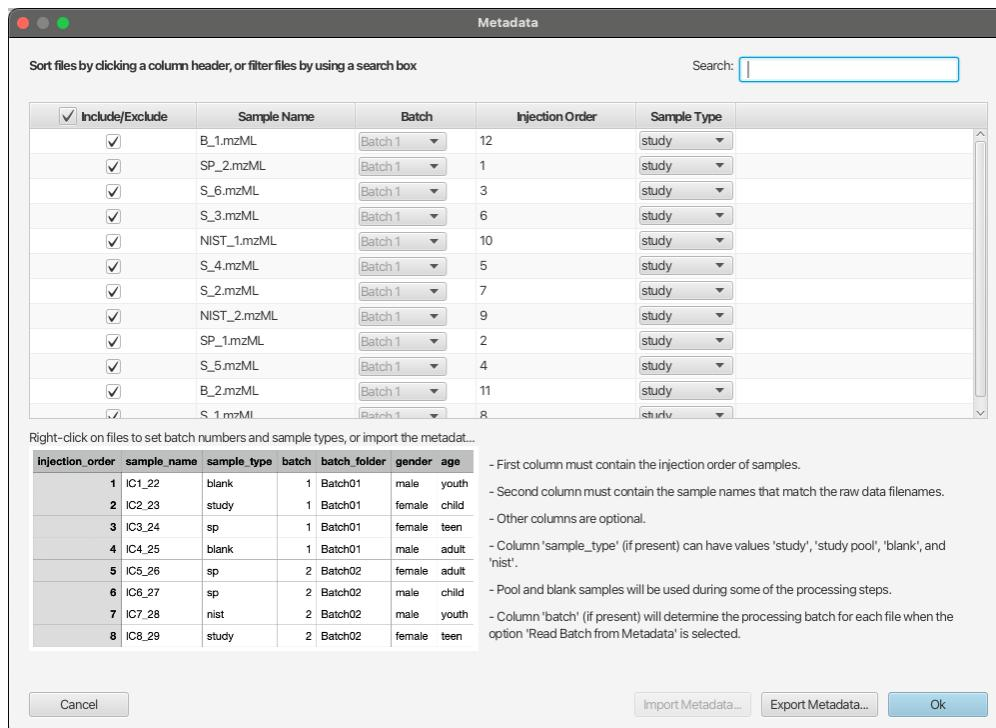

Figure 2.7: Metadata window.
**Manage samples in the project.** In some situations, users may want to view the sample metadata, exclude certain samples from the processing, or adjust their sample types. In this case, they can click the button *Edit Metadata...* at the bottom of the project tree to open the Metadata window (Figure 2.7).